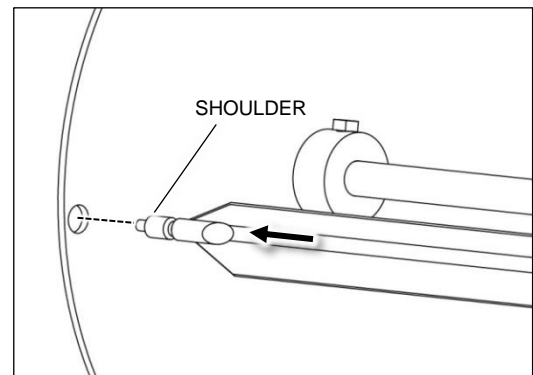

Figure 4-3
1. As indicated in Figure 4-3 insert the pointed end of the skewer into a hole in the plate on left side of rotisserie.